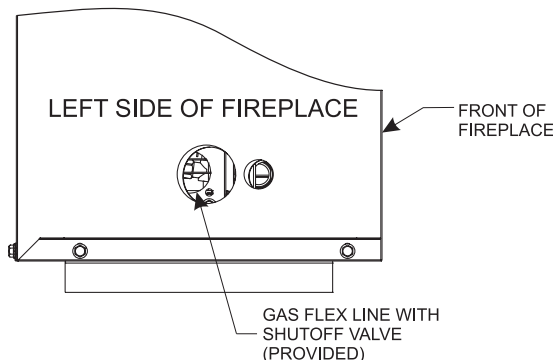
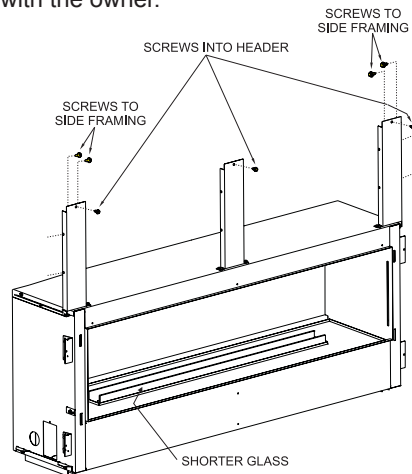

Figure 24
Figure 27
4. Secure three middle mounting brackets with drywall screws to the framed opening above the fireplace as shown in **Figures 27 to 35**. The brackets should be installed to support the ends of the non-combustible board. Note: The drywall screws are located in the instruction envelope packet. Secure the left and right framing standoffs to the side framing as shown in figure 24. Secure fireplace on left and right through side framing brackets.
12. Retrieve shorter glass and install in front of burner. **See Figure 27.**